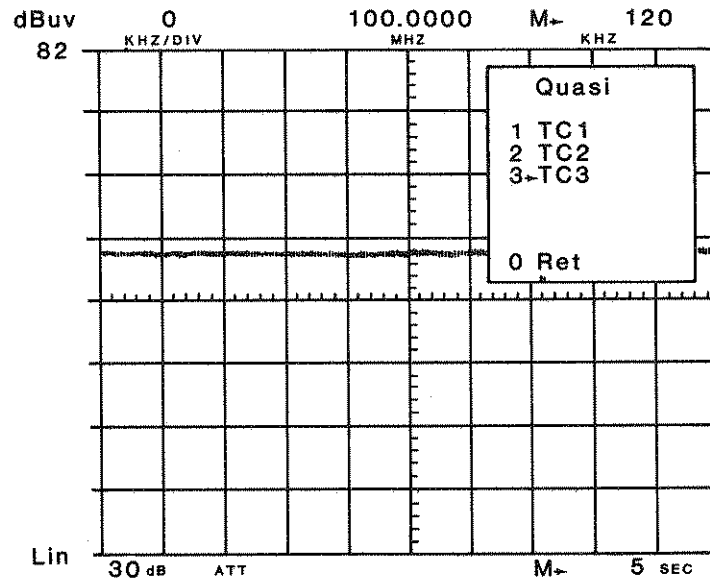

Figure 8-12 Frequency in Question With Quasi-Peak Activated
9. Select the Quasi-Peak Filter Menu (Press: "4"). Refer to Figure 8-12 and to Appendix C to compute the Signal Amplitude at the Frequency in question.
In Figure 8-12, the Signal Amplitude level is approximately 4.85 divisions above the bottom graticule on the display. The X value, from Table C-1, is -4.35. The Top of Scale is 82 dB $\mu$ V. Using the equation for Signal Amplitude ( $A = T + X$ ), the calculated Signal Amplitude is 77.65 dB $\mu$ V.